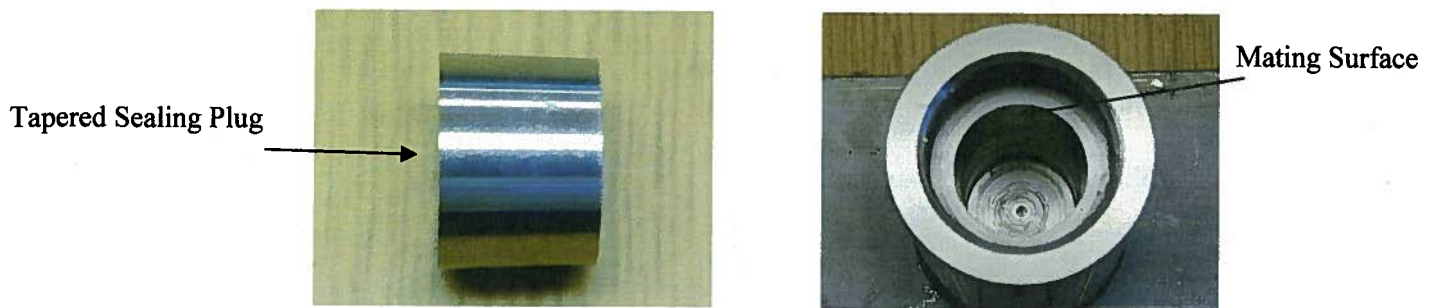

Figure 3: Tapered Sealing Plug and Mating Surface
- d. Inspect the tapered sealing plug and mating surface for scratches, gouges, debris, and nicks. (Figure 3)